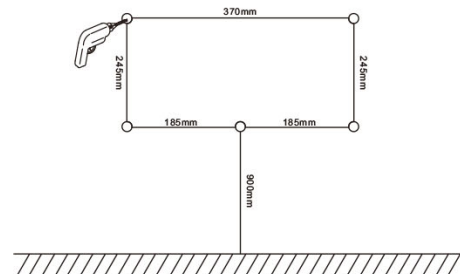

FIG. 1
1. Rack 90cm high form the ground, drill five holes according to the size mark on the instruction.(fig1)